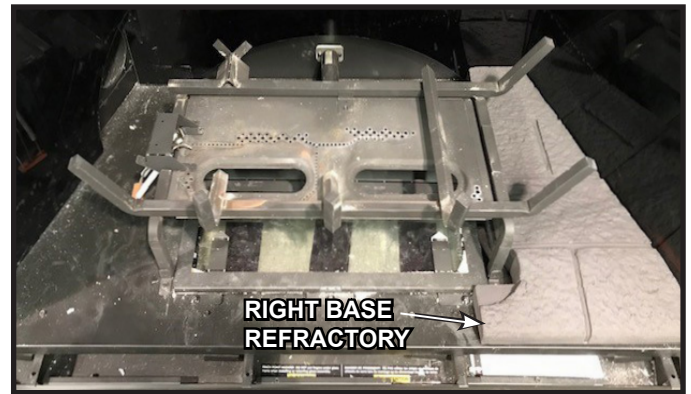

Figure 22 Right Base Refractory installed
22. Locate new refractory pieces. Install the Right Base Refractory piece. See Figure 22.